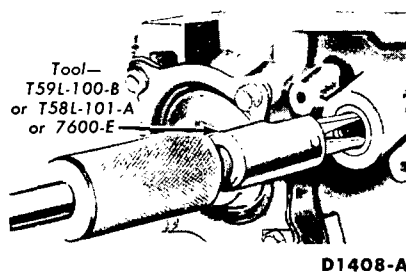
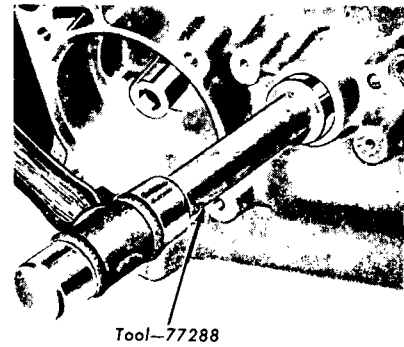

FIG. 65—Removing Manual Lever Seal
FIG. 66—Installing Manual Lever Seal
7. To remove the manual lever seal, use the tools shown in Fig. 65. To install the new seal, use the tool shown in Fig. 66.